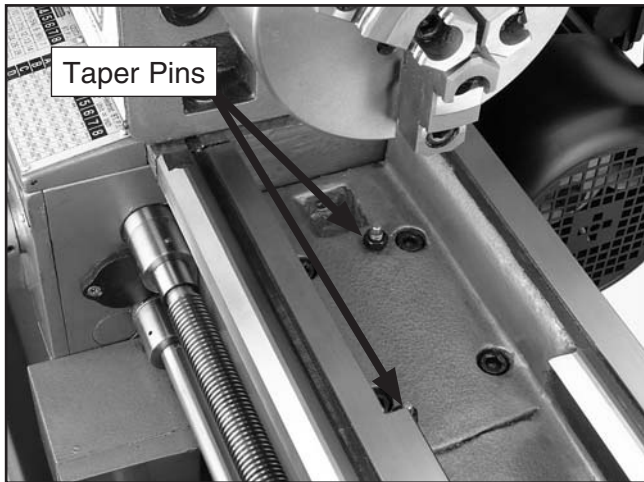

Figure 43. Lathe gap.
1. Find the two taper pin nuts located on the bed of the gap (see **Figure 43**).